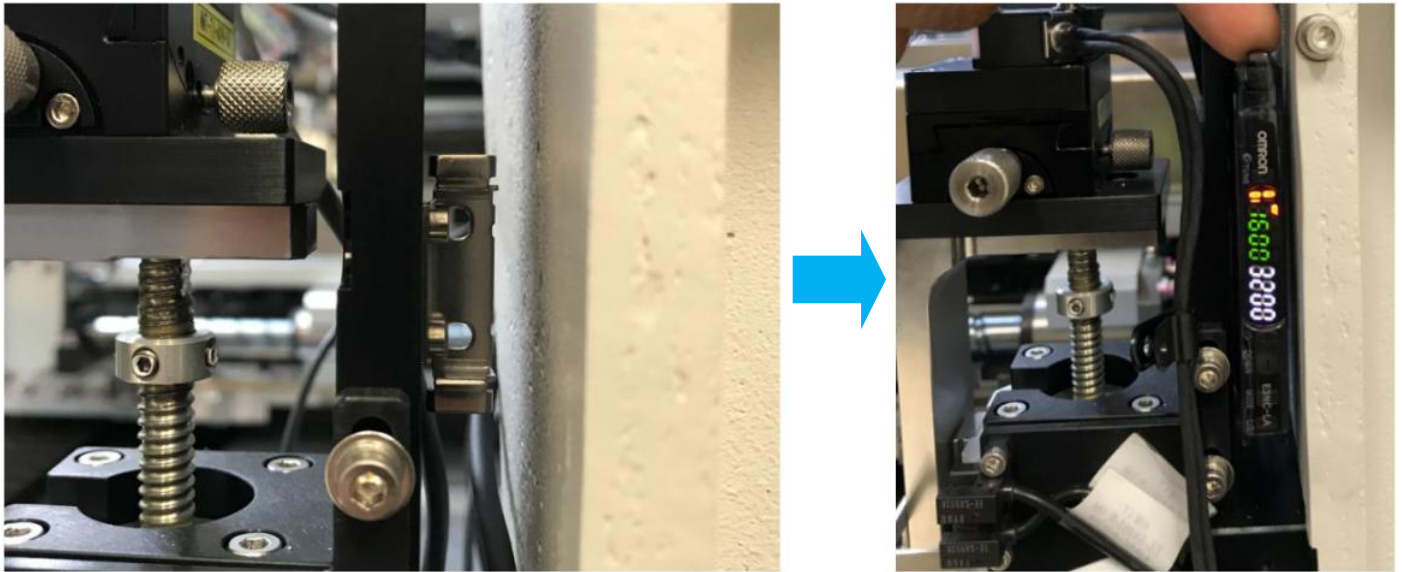

Figure 15
17. Gently slot Filter Height Sensor Amplifier into Holder as below Figure 15.